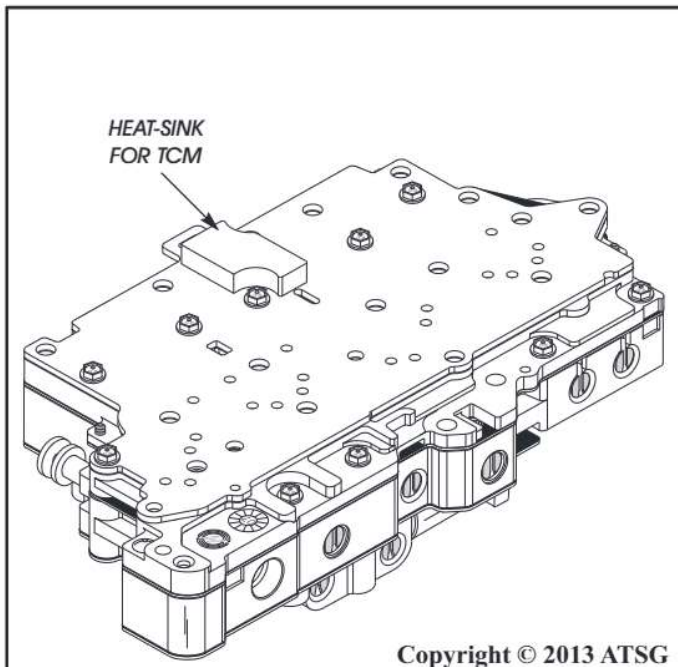

Figure 170
2. Place the valve body assembly on a flat work surface, as shown in Figure 170.
Note: There is an aluminum block permanently attached to the steel upper support plate, as shown in Figure 170, that acts as a heat-sink for the TCM which is part of the solenoid body.